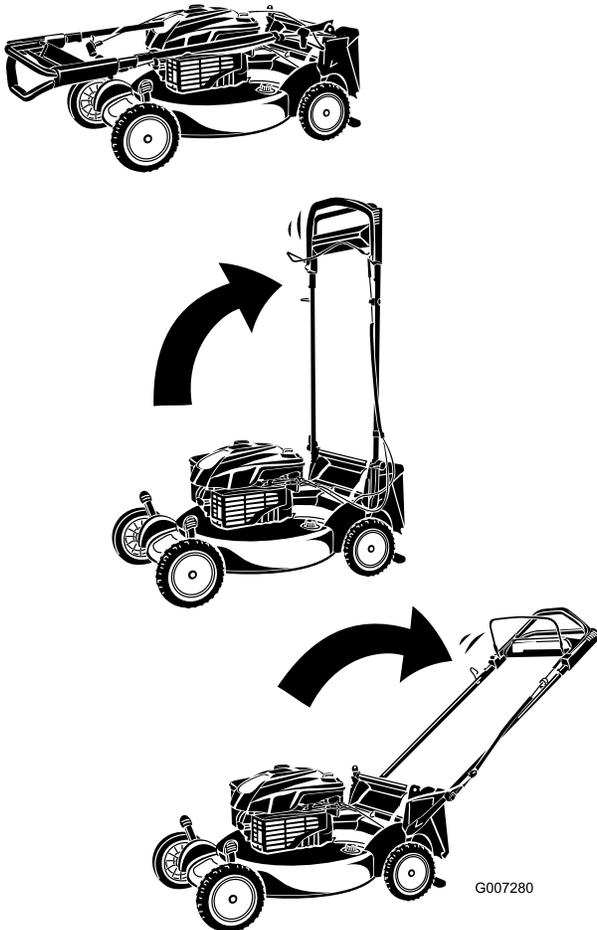

Figure 5
- Rotate the handle rearward (Figure 5).